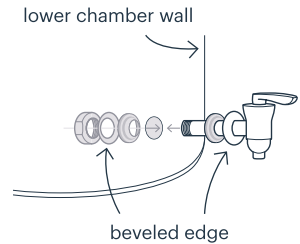

Figure 3
- 2 Thread one stainless steel washer onto the spigot, positioning it so that the beveled side faces away from the lower chamber, as shown in Figure 3.